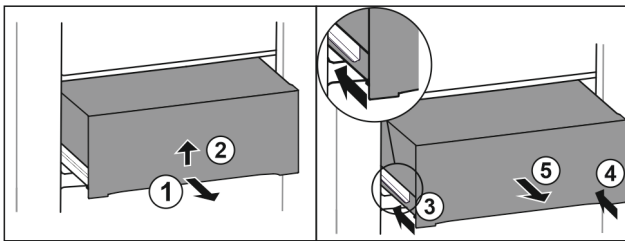

Fig. 53
- ▶ Pull out drawer half-way. Fig. 53 (1)
- ▶ Lift the drawer from the bottom. Fig. 53 (2)
- ▶ Insert left rail. Fig. 53 (3)
- ▶ Insert right rail. Fig. 53 (4)
- ▶ Remove drawer to the front. Fig. 53 (5)